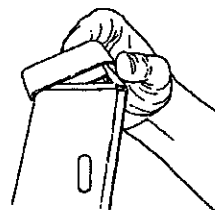

Fig.A-14
18. Slip a leg boot (1) onto each leg end, gently "working" the leg boot until it snugly fits the leg end. See Fig.A-14.